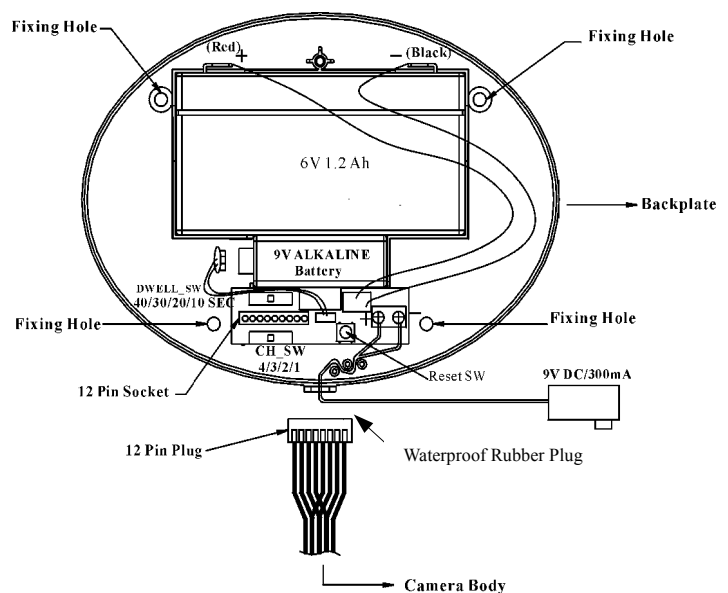

Figure 3
Step 1: Install the camera (refer to Figure 3)
You can also additionally have a 9V DC 300mA regulator power AC adapter and wire it on S3 (refer to Figure 3) of backplate to recharge and to transmit images and voices continuously.